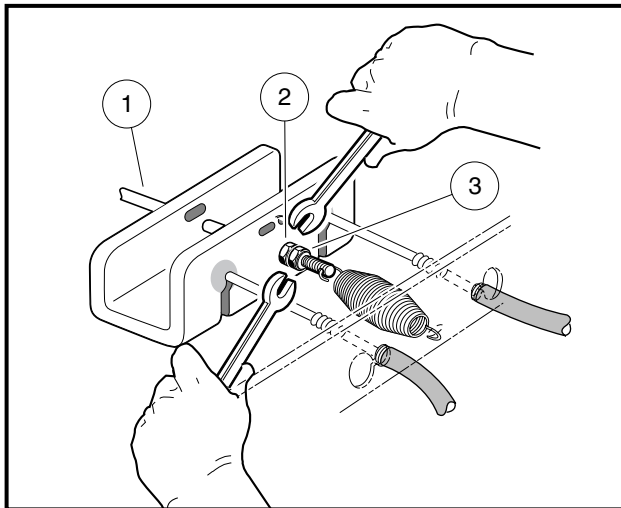

Figure 5-12 Loosen Rear Brake Equalizer Rod Nuts
- 2.2. To provide slack in the brake cables, loosen the equalizer retaining nuts (2 and 3) on the equalizer rods (1) (**Figure 5-12, Page 5-12**).